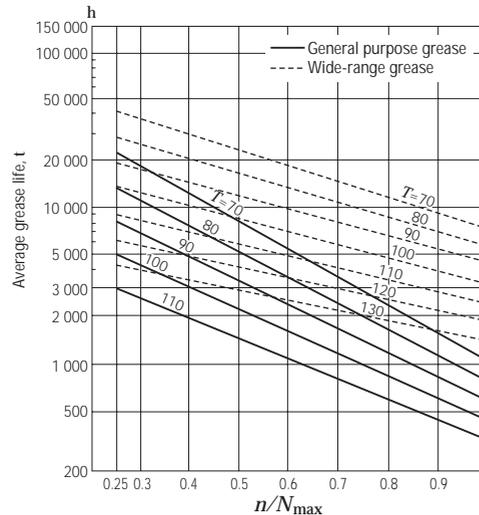

Fig. 12.3 Grease Life of Sealed Ball Bearings
**(4) Grease Life of Sealed Ball Bearings**
When grease is packed into single-row deep groove ball bearings, the grease life may be estimated using Equation (12.1) or (12.2) or Fig. 12.3: (General purpose grease (1))
Equations (12.1) and (12.2) and Fig. 12.3 apply under the following conditions: